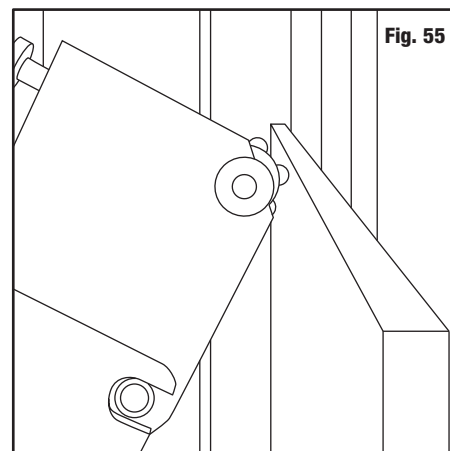

Fig. 55
1. When handle is retracted, glass wheel should touch top of glass in middle of wheel (Fig. 55).